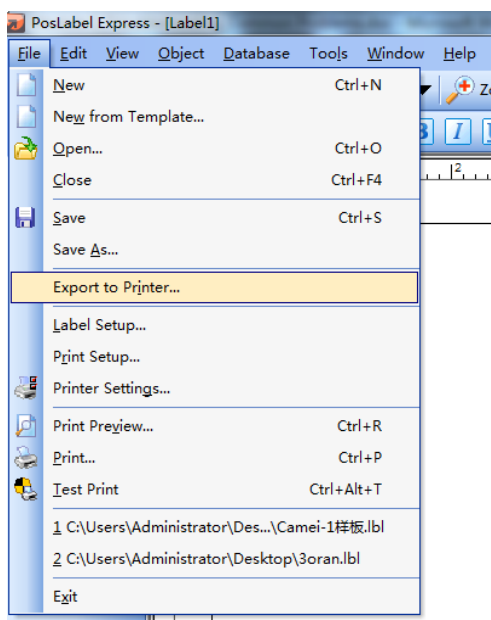

Figure 4-1
3. Select File, Export to Printer, as shown. The form name will be the same as the label file name. See Figure 4-1.